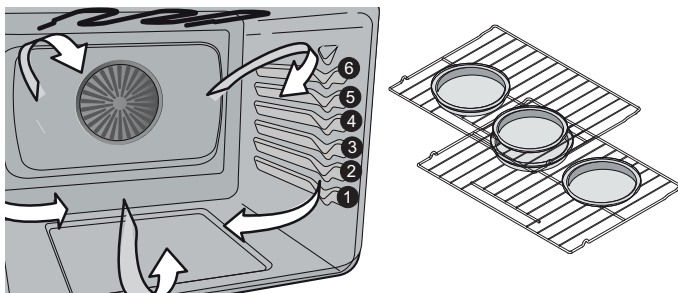

Figure 14: Rack positions and suggested pan placement Figure 14
- When baking cakes using two oven racks place bakeware in positions 1 flat and 3 glide and place bakeware as shown in Figure 14.